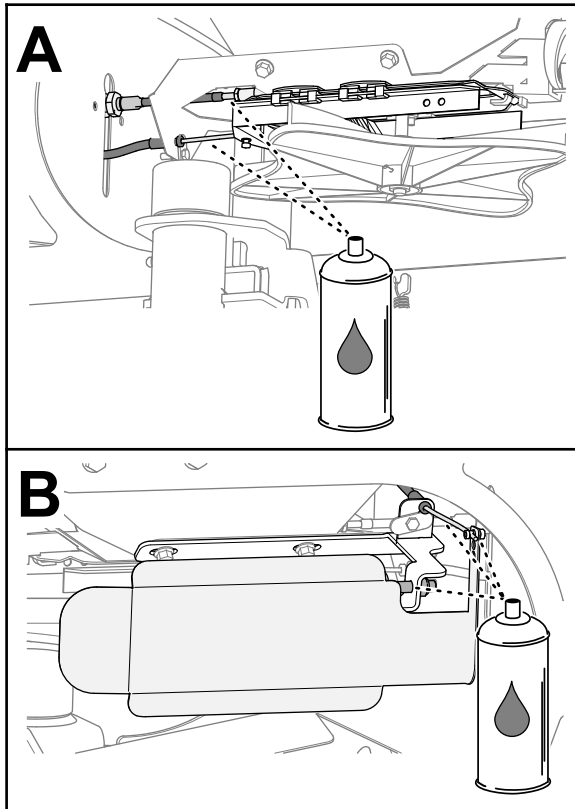

Figure 51
1. Apply water-displacing lubricant to the control cables and pivot points as shown in Figure 51.